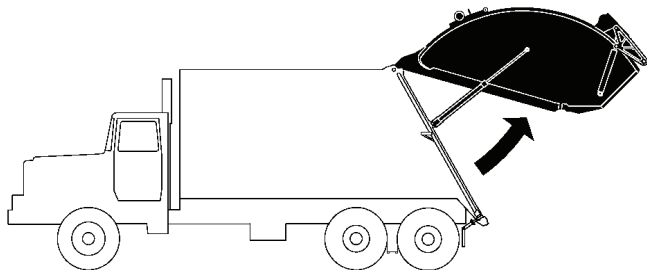

Figure 21
1. To RAISE the tailgate, ensure that the turnbuckles or optional hydraulic locks have been opened, then PULL out the tailgate lever until the tailgate reaches the fully open position (Figure 21).